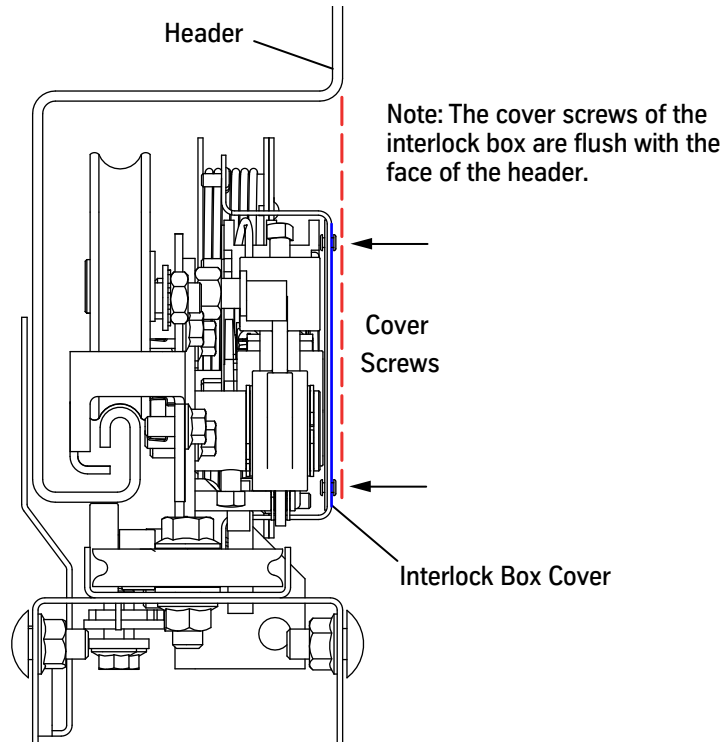

Figure 69 - Interlock Contact Box Installation
1. Install the interlock contact box. Evenly align the cover screws with the face of the header. See Figure 69.